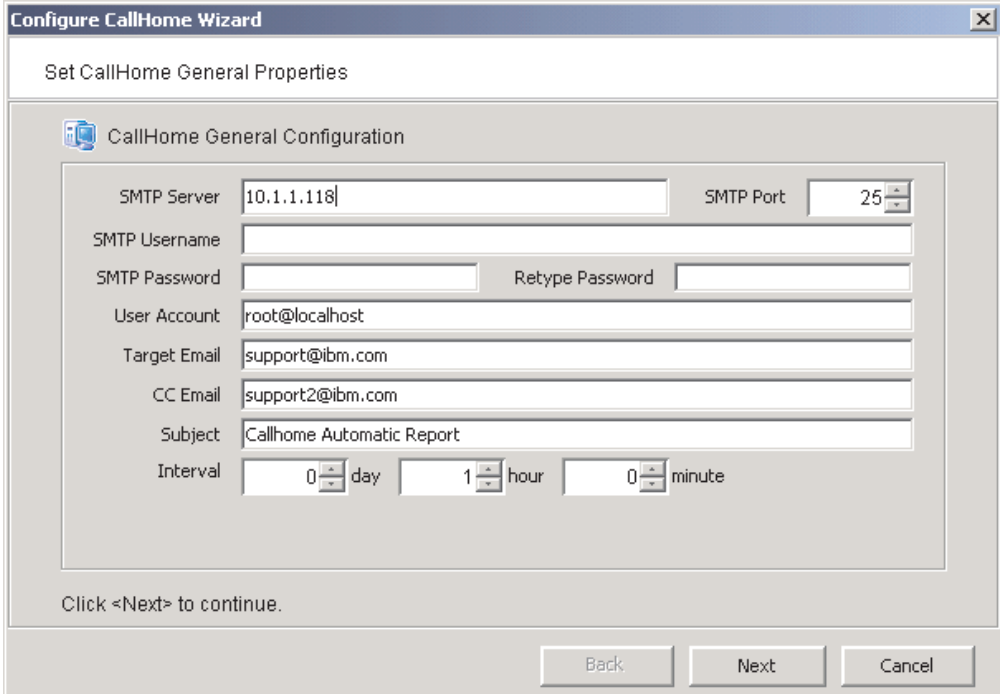

Figure 120. Set CallHome General Properties window
2. ___ In the Set CallHome General Properties window (Figure 120):
4. ___ In the Set CallHome Trigger Properties window (Figure 120 on page 175):